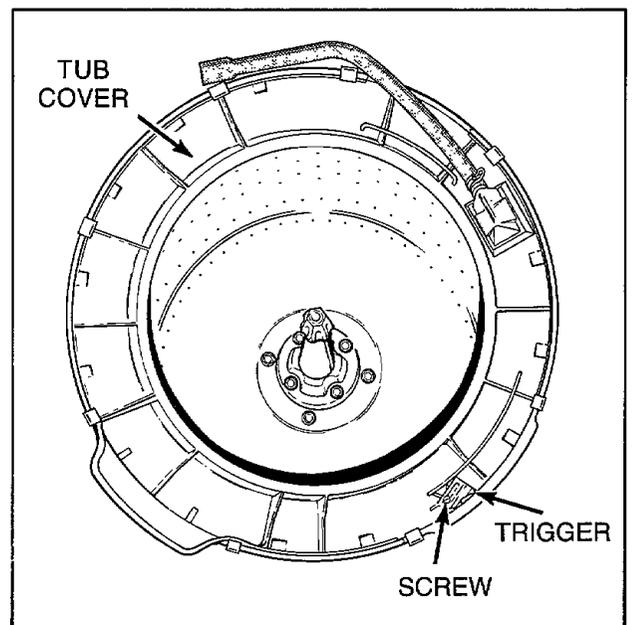

Figure 39
NOTE: The trigger is centered, *Figure 39*, on the mounting screw at the factory.
- Loosen screw holding trigger to tub cover, *Figure 39*, move trigger to the right (increases sensitivity) or to the left (decreases sensitivity).